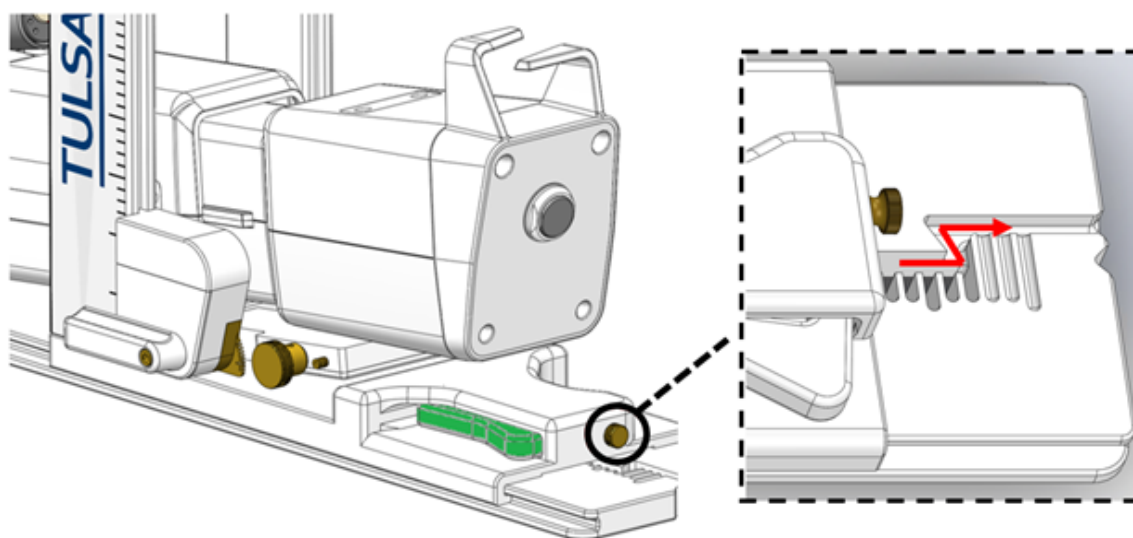

Figure 69: Removing PS from base plate
1. Remove the PS from its notched base plate by partially unscrewing the thumbscrew located on the rear of the PS base and depressing the horizontal adjustment lever through the Z channel at the rear of the PS base (*Figure 69*).